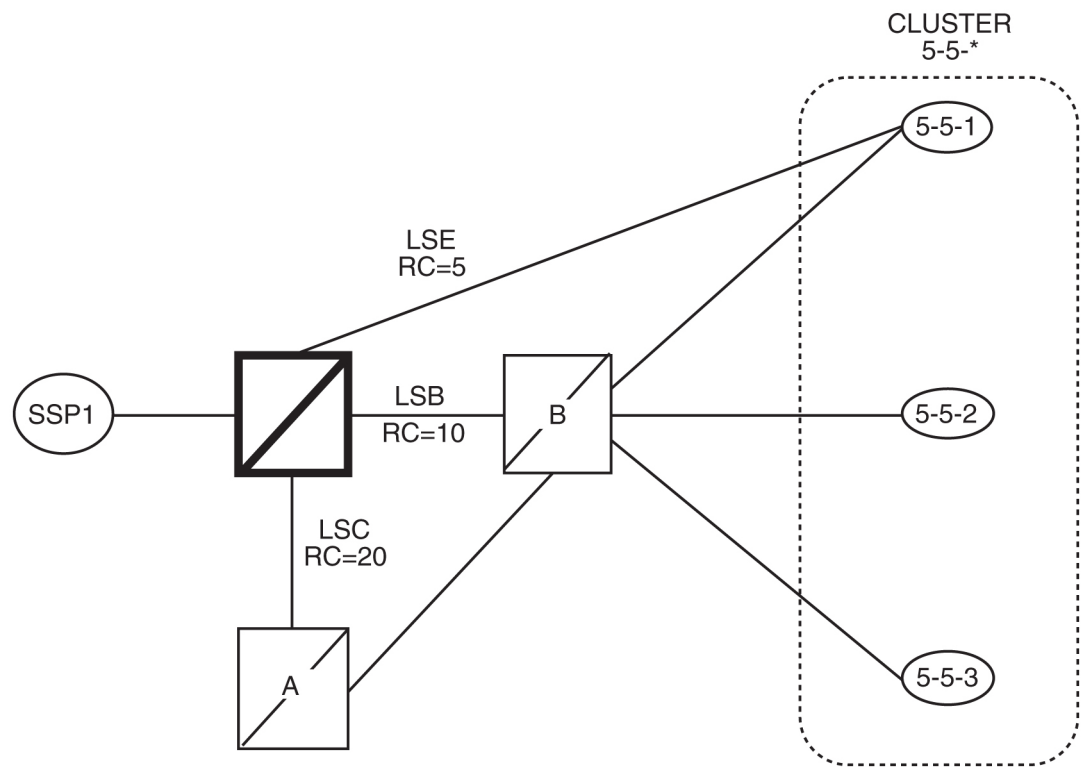

Figure 17: Nested Cluster Routing Sample Configuration
Figure 17: Nested Cluster Routing Sample Configuration provides an example of provisioning a nested cluster and its associated members.
1. The EAGLE 5 ISS allows the user to enter a full point code routeset entry even if the point code is a member of a cluster that has a different routeset. For example, in Figure 17: Nested Cluster Routing Sample Configuration, the provisioned member 5-5-1 has a different routeset than the cluster's routeset.
For example, in Figure 17: Nested Cluster Routing Sample Configuration, if linkset LSB fails, a TCP message for cluster 5-5-* is not broadcast because the least restrictive status of provisioned member 5-5-1 is allowed.
3. The EAGLE 5 ISS does not send preventive TCPs when it begins routing toward a nested cluster. The EAGLE 5 ISS sends response-method preventive TFPs if it receives an MSU and there is danger of circular routing. For example, in Figure 17: Nested Cluster Routing Sample Configuration, the EAGLE 5 ISS does not send a preventive TCP for cluster 5-5-* when routing to cluster 5-5-* over linkset LSB. However, if the EAGLE 5 ISS receives an MSU on linkset LSB destined for node 5-5-2, the EAGLE 5 ISS discards the MSU and sends a TFP to node B concerning node 5-5-2.
Figure 17: Nested Cluster Routing Sample Configuration provide an example of nested cluster routing. Table 11: Routing Table for Nested Cluster 5-5-* and Table 12: Routing Table for Full Point Code Member 5-5-1 show the routing tables for the cluster point code and one of the members of the cluster point code. Table 13: Example of Nested Cluster Routing Failure and Recovery Actions shows what actions the EAGLE 5 ISS takes when the linksets in a nested cluster configuration fail and recover. The actions in Table 13: Example of Nested Cluster Routing Failure and Recovery Actions are based on the example nested cluster routing configuration shown in Figure 17: Nested Cluster Routing Sample Configuration.